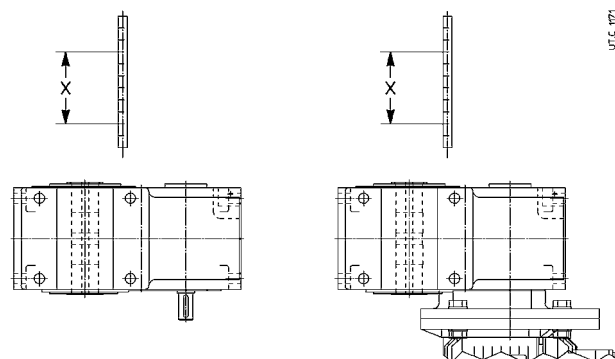

Fig. 6.2.1 - Position the helical gear reducer or gearmotor, mounting position V6 for oil level (quantity) measurement
**Important!** Verify mounting position keeping in mind that if gear reducer is installed in a mounting position which differs from the one indicated on the name plate, it could require the addition of the difference between the two quantities of lubricant corresponding to x dimension and stated in the following tables. Measure x dimension in fig. 6.2.1 (helical) and 6.2.2 (bevel helical), after eliminating potential residual air in the oil, inside the gear reducer.